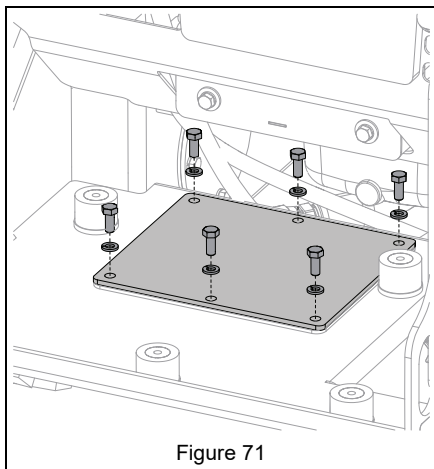

Figure 71
6. Reinstall fluid tank cover with hardware removed earlier. See Figure 71.